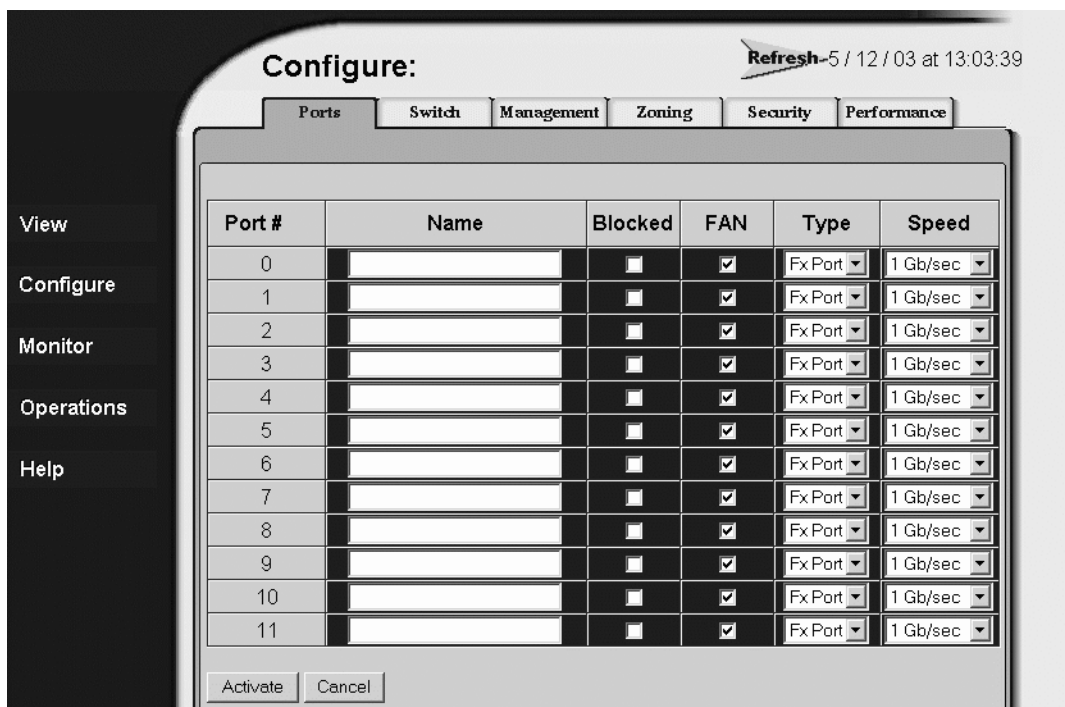

Figure 14: Block or unblock a port from the Configure window
1. Click **Configure** at the left side of the window. The **Configure** window opens with the **Ports** tab displayed (Figure 14).